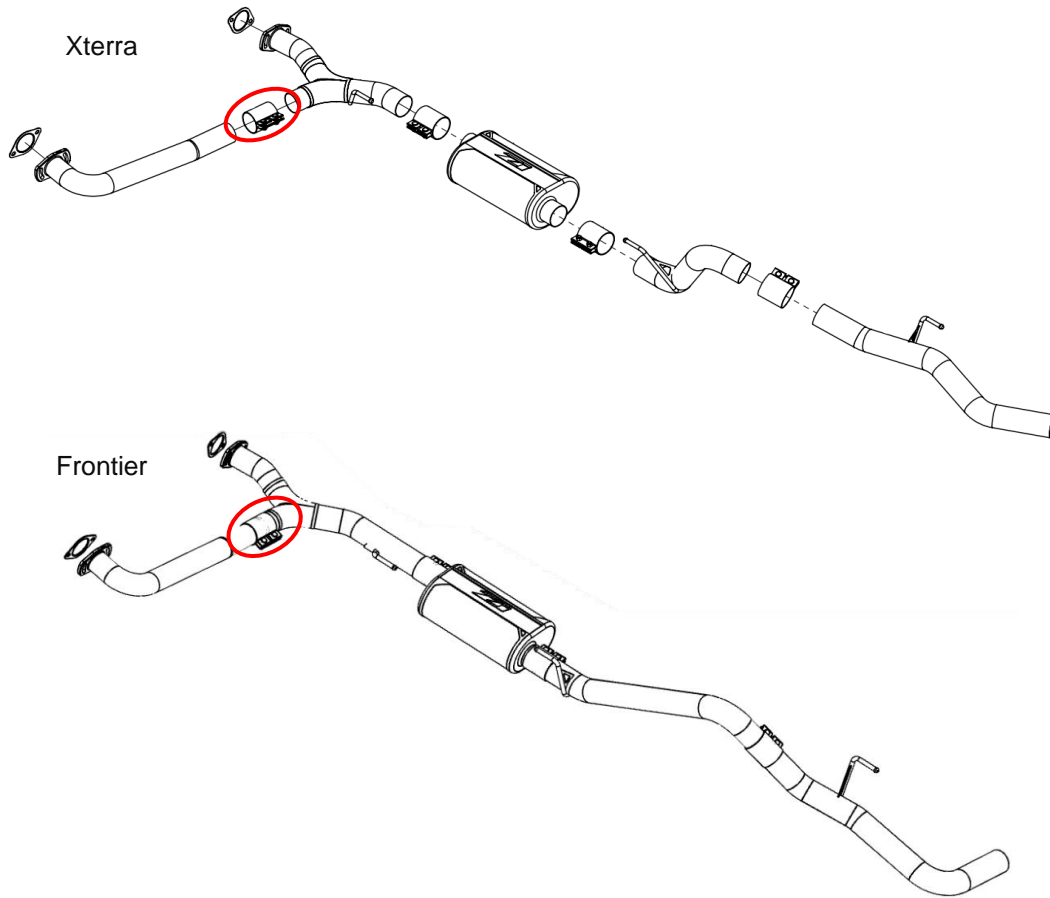

Figure 2
4. Locate all new Exhaust Components and Hardware/Gaskets. Orient the Exhaust Components into position under the vehicle, with an Exhaust Gasket between each Exhaust Flange. Place the bolts through each Mounting Flange and loosely secure with a hex nut on the other side. Use *Figure 2* below for a diagram of Exhaust orientation.